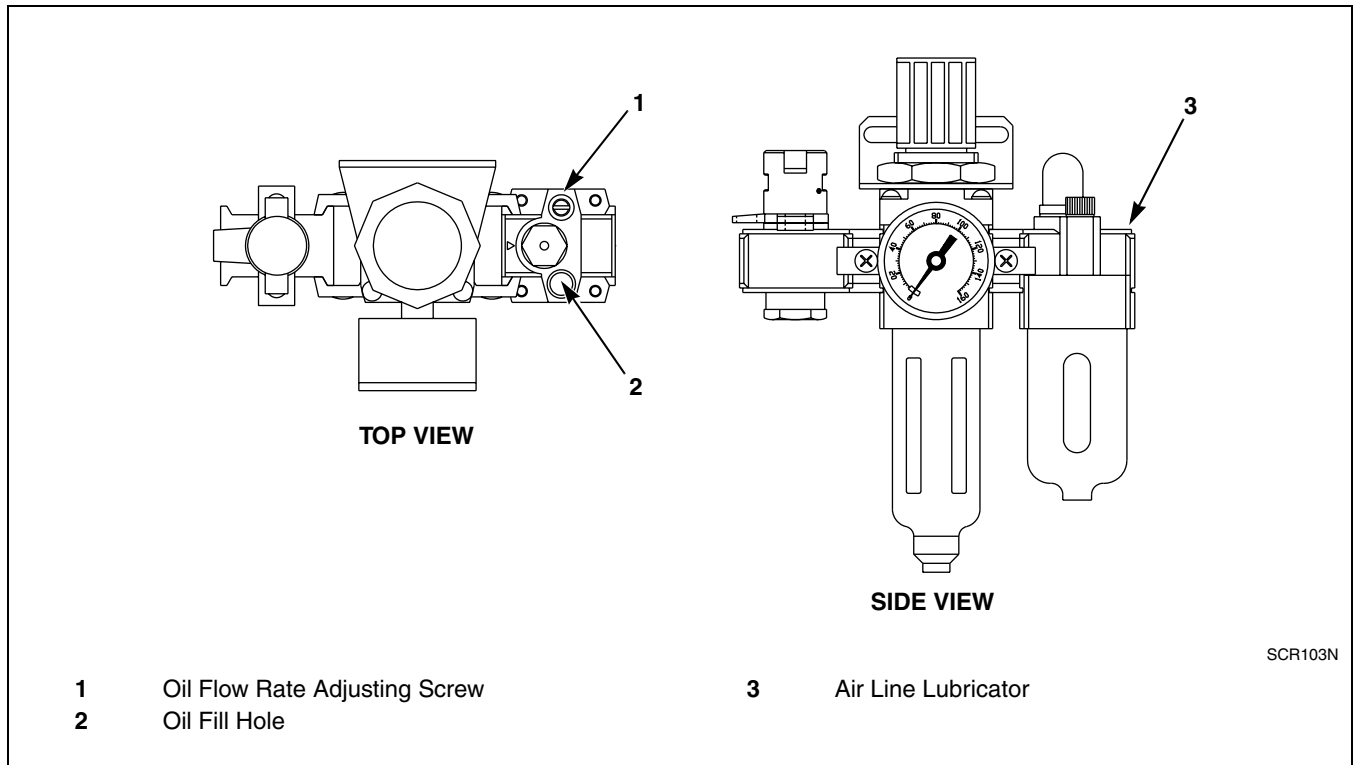

Figure 23
2. To increase flow rate, use a screwdriver to turn the adjusting screw no more than a 1/8 turn in the counterclockwise direction. Likewise, turn clockwise to decrease oil flow. Refer to item 1, *Figure 23*.
IMPORTANT: To avoid o-ring leaks at the top of the bowl, do not remove bowl. Fill through the oil fill hole. Refer to item 2, *Figure 23*.